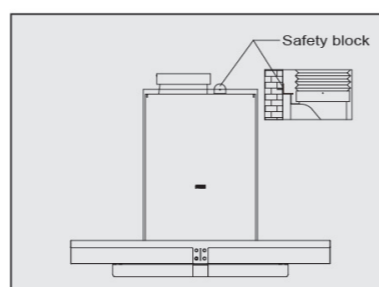

Fig.2
7. Confirm the churn drilling hole position according to Fig 2, firmly imbed the expansion pipe, fix the safety block, and screw in the wooden screw to fix.